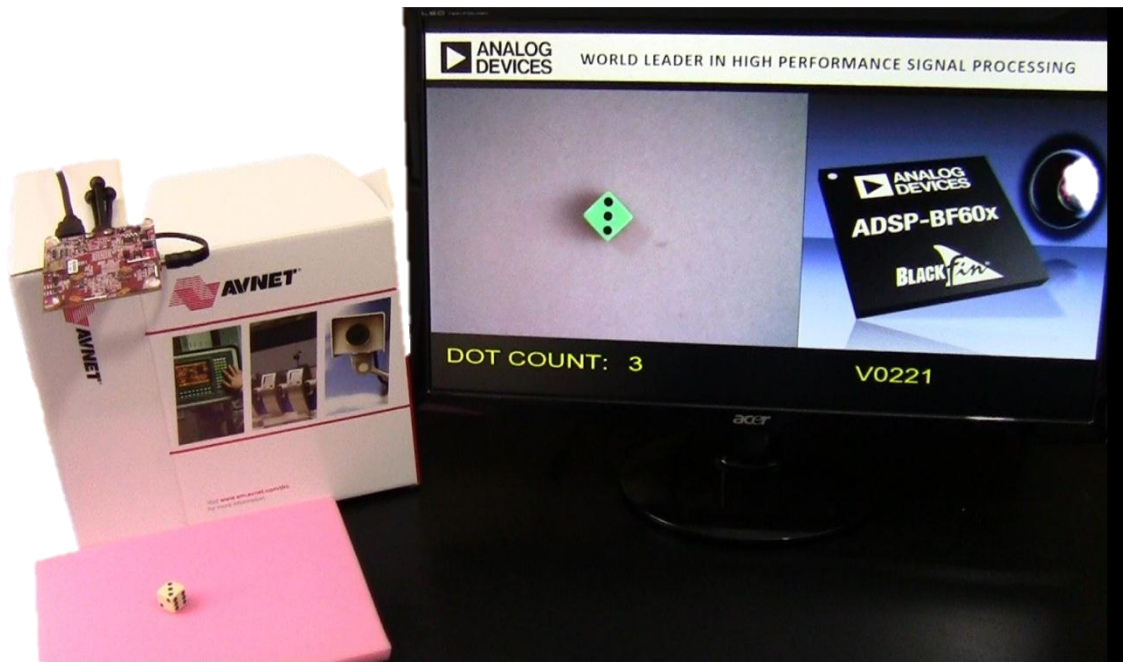

Figure 4 - Dice Dot Counting Demo Hardware Setup
The box that FinBoard is packaged in has a clever alternative use. With the addition of the tripod and mount (included with the kit), the box is used to suspend FinBoard above the viewing area for the BDTI Dice Dot Counting Demo, as shown in **Figure 4**. Step-by-step instructions for assembling the pieces are given below.
5. Position the Avnet box as shown in **Figure 4** with the flap opened 90 degrees to add stability to the setup.